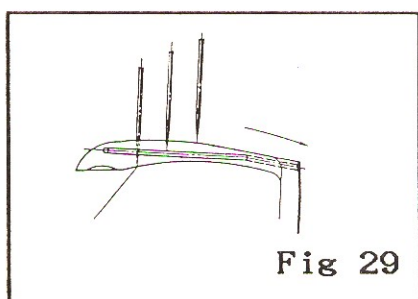

Fig 29
- 2.For the 3-needle machine, the end of the left needle is vertical to the lower edge of the Looper. (Fig. 29)